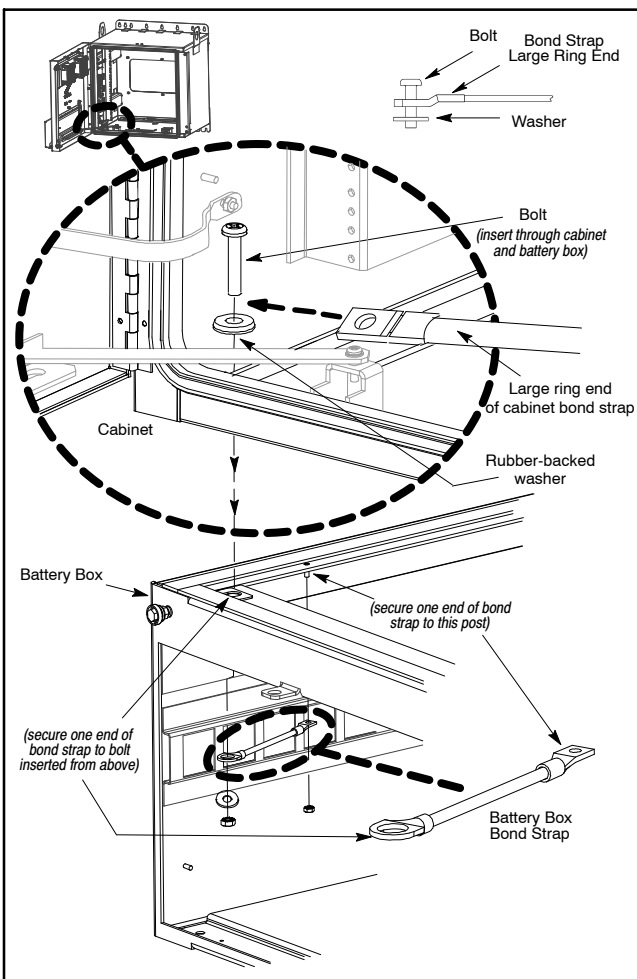

Figure 13. Installing Battery Box Bond Strap
3. **Install other end.** Install the ring end with the smaller hole between a provided washer and screw, in the bottom front left corner in the cabinet, as shown in Figure 13.
4. **Install battery box bond strap.** As shown in Figure 13, attach one end of the other bond strap to the downward facing post provided for it on the top flange of the battery box near the left wall. Attach the other end of the strap to the bolt that enters the top left front corner of the battery box from the cabinet above. This bolt also secures the bond strap located inside the cabinet above. Secure the bond strap with the provided nut.